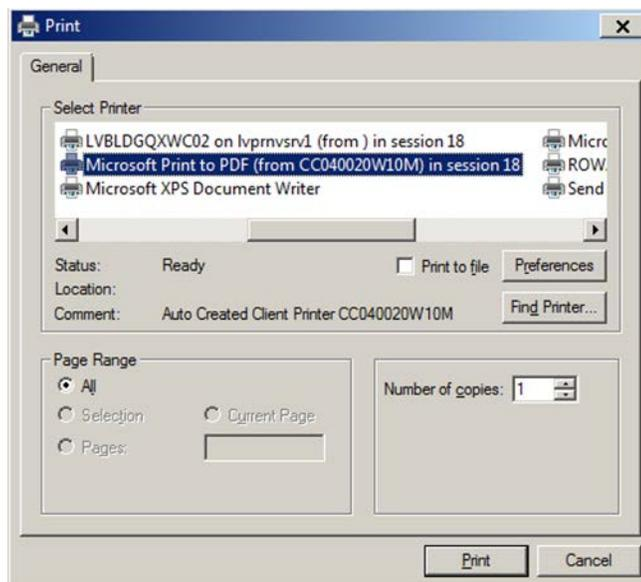

Figure 11-14. Print Dialog
3. The Print Dialog box opens for each of the estimate reports (Figure 11-14). The **Construction Pay Estimate report is REQUIRED to be signed and filed in Division 7 of our contract files.**